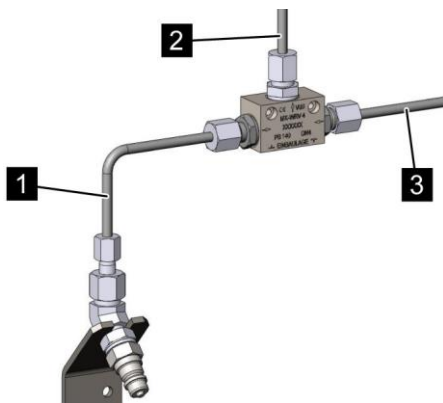

Fig. 114: Connecting the pilot line
7. ➔ Connect the pilot line (Fig. 114/1) to the test connection and ensure correct connection: